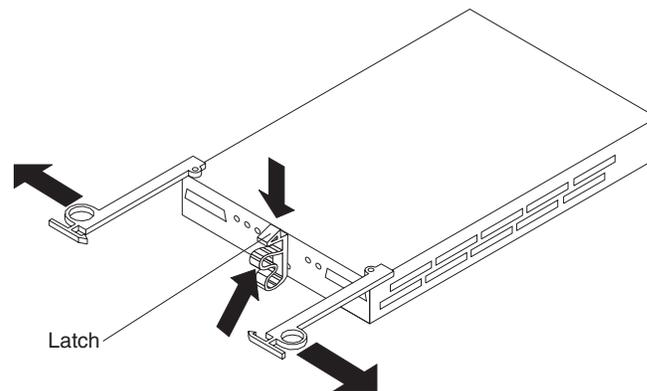

Figure 42. Removing the failed ESM
- + 7. Push down on the ESM latch. While holding down the ESM latch, grasp the pull rings and pull out on the levers to disconnect the ESM from the FAST EXP100 midplane. The ESM levers will pop out of the locked position, as shown in Figure 42.